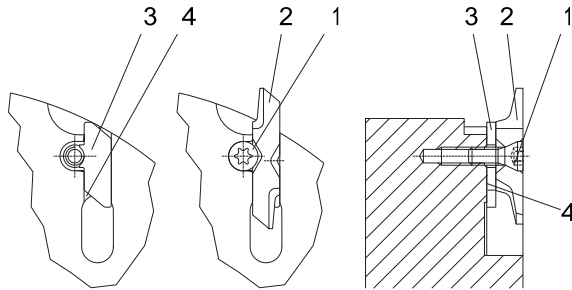

Fig. 7
(See Fig. 7)
2. Loosen the screw (1) with the Torx key and completely remove it from the knife seat.
3. Remove the four-corner knife (2) and -if necessary- the shim (3) from the knife seat.
4. Clean the knife seat (4) and all of the components that go with it. Be sure all clamping surfaces are free from dirt, oil, grease and water.
6. Insert precisely the reversed or new four-corner knife (see Fig. 7).